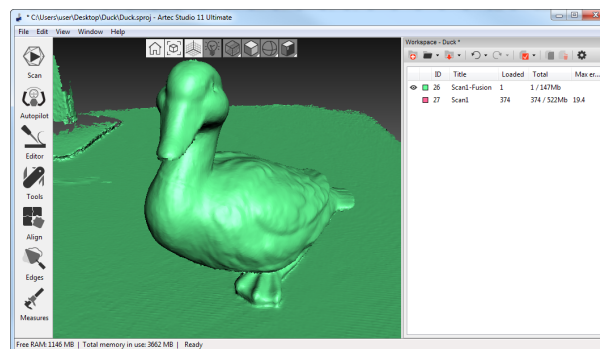

Figure 5.8.: *Workspace* panel after using Real-time fusion.
6. When you stop scanning, the *Workspace* panel will add one or more raw scans named Scan1, Scan2, Scan3 and so on, as well as one model named Scan1-Fusion. The number of these raw scans corresponds to how many times you pause and resume scanning (see Figure 5.8.).